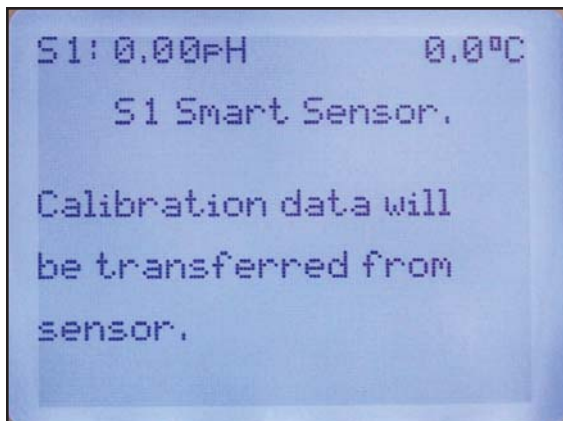
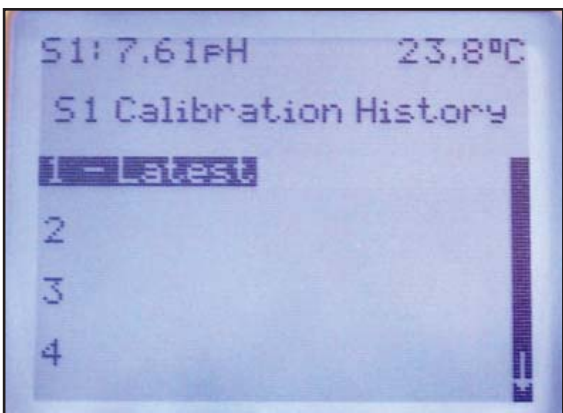
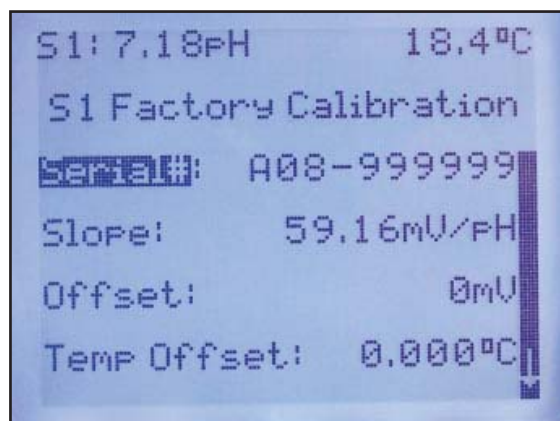

Figure 5-1. SMART start-up screen
Figure 5-2. Calibration History menu on 1056
Figure 5-4. Factory Calibration
The SMART models 1056, 1057 and 6081 instruments automatically search for SMART sensor. Once the SMART sensor is detected, 385+ (-03), and communication is established the start-up, screen will appear, figure 5-1. Start-up and calibration of pH/ORP are described on page 16. Up to five (5) calibration data sets can be found under DIAG/sensorX/calibration history, see figure 5-2.
The factory calibration data can be found on the bottom of Calibration History menu figure 5-2. Use key-pad to scroll down to the bottom, find Factory Cal. line and press enter. The factory calibration screen will appear, figure 5-4. It contains the serial number of the sensor, slope, offset, temperature offset, glass impedance and reference inductance value. It's possible to restore the calibration settings to factory default. Please, refer to corresponding instrument manual for correct procedure.